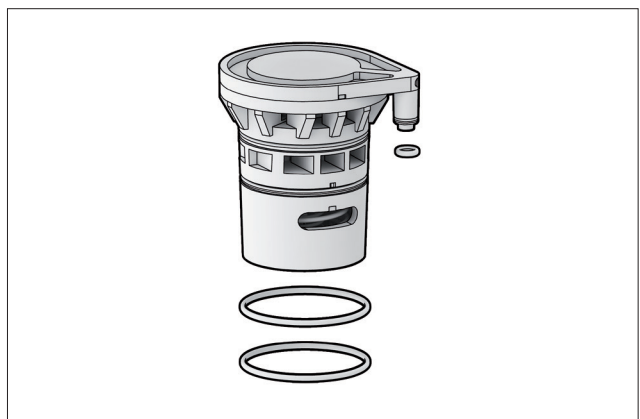
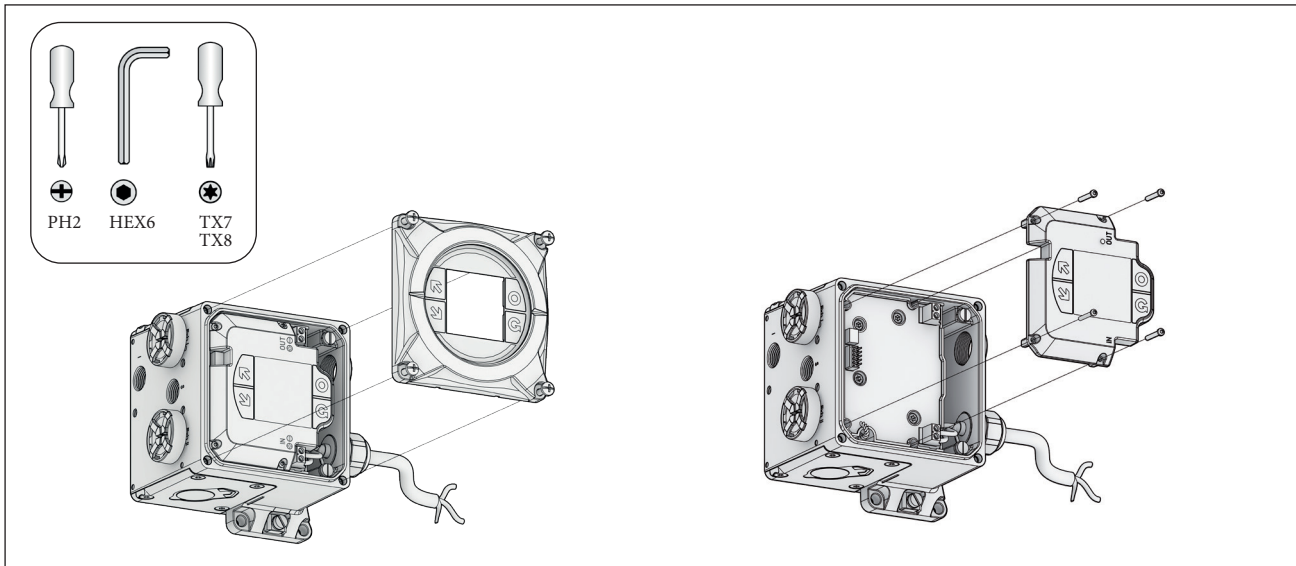

Fig. 91.
Fig. 92. NDX1510\_
- Loosen the display screws and remove display. (Fig 91, Fig 92)